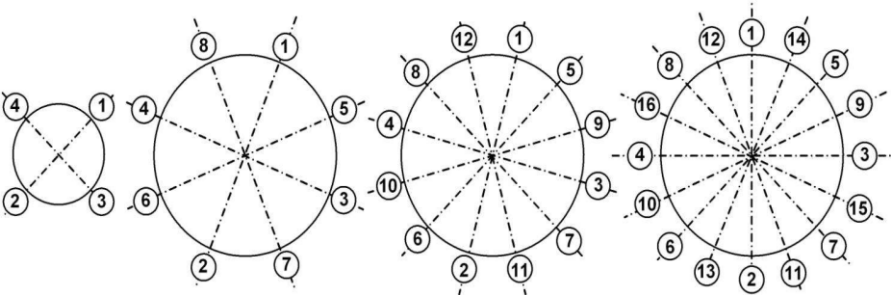

Fig.4. Order of tightening flange nuts.
3.2.6.5. When mounting PCF (Simulator) into the pipeline, tighten nuts in order specified in Fig.4 by a torque indicating wrench with maximum torque value that does not exceed the value specified in Table 2. **Exceeding of torque value may cause damage to PCF followed by leaking liquid into the flowmeter.**